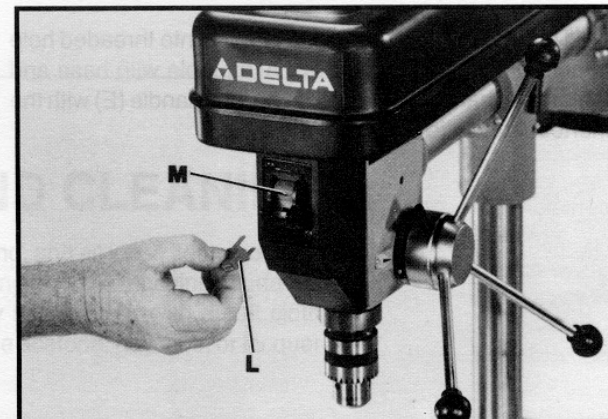

Fig. 8
7. Insert switch key (L) Fig. 8, into switch (M). **CAUTION:** Only insert switch key after drill press is secured to the supporting surface as explained in the section "FASTENING DRILL PRESS TO SUPPORTING SURFACE."